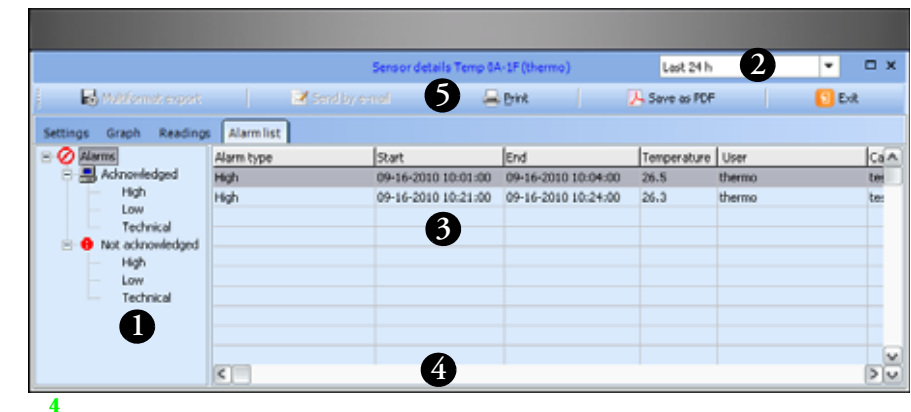

Figure 82. Alarm list for a specific sensor
- 3. Use the tree structure (#1 in Figure 82) to filter the alarms displayed by type and/or by acknowledgement status.